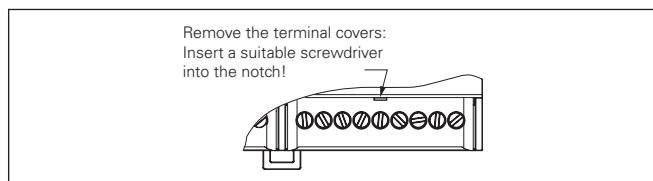

Fig. 2 Removing the terminal covers (REG variant)
- **REG:** When installing the device in a distributor, clip it onto a symmetrical DIN rail (TH 35 as per EN 60715: 2001). To ease connecting the device, the terminal covers can be removed (see Fig. 2). One of the terminal covers can be removed to connect the network.